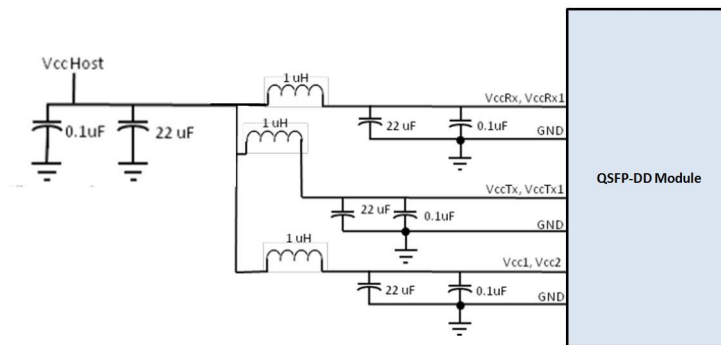

Figure 4 Recommended Power Supply Filter
[6] Receiver sensitivity (OMA_{outer}) is informative and is defined for a transmitter with a value of SECQ up to 3.4 dB. Receiver sensitivity should meet Equation (1), which is illustrated in Figure 4.